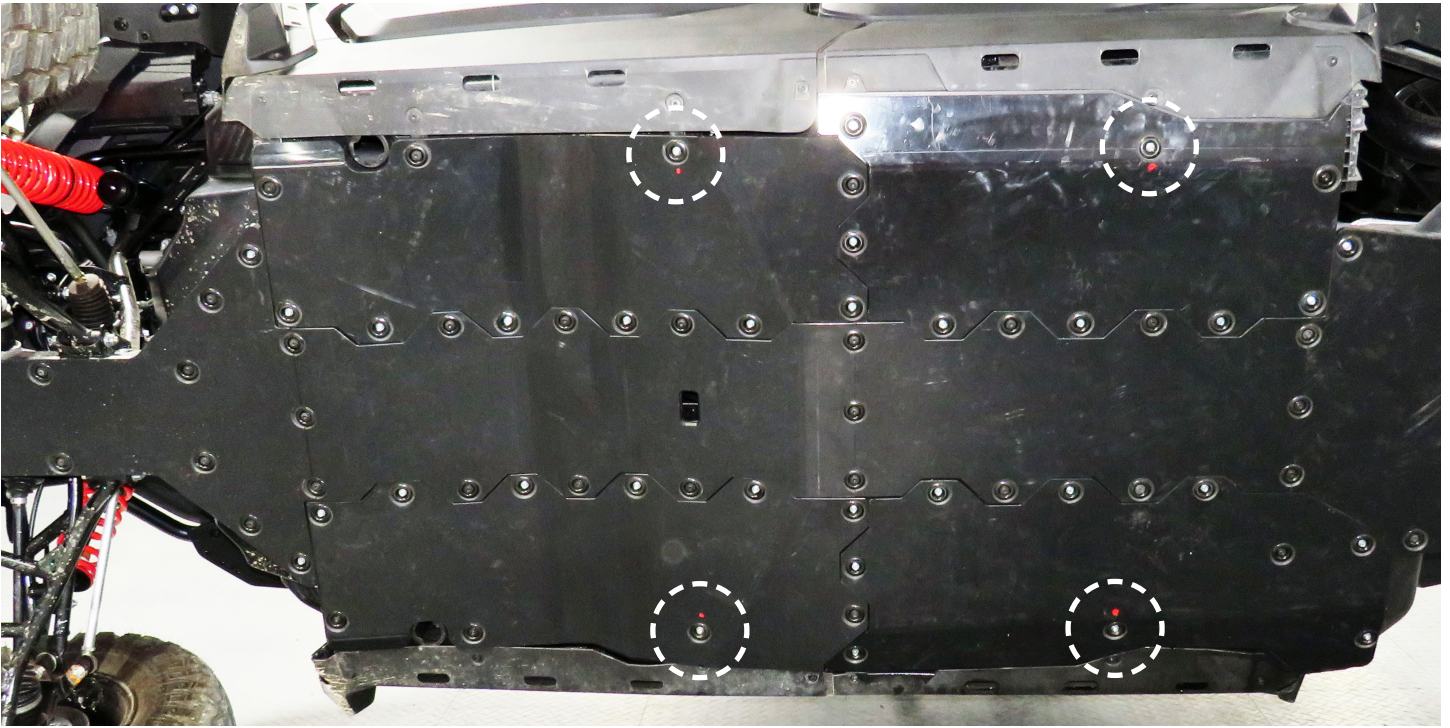

Fig.1c
NOTE. There are also **Four (4) Screws**, when installing, that are Longer than the rest. These are the locations marked with a **Red Dot** shown in **Fig.1c** below. They are the M6x25 Hex Flanged Bolts provided in your kit. Only 4 needed but your kit may have extras.